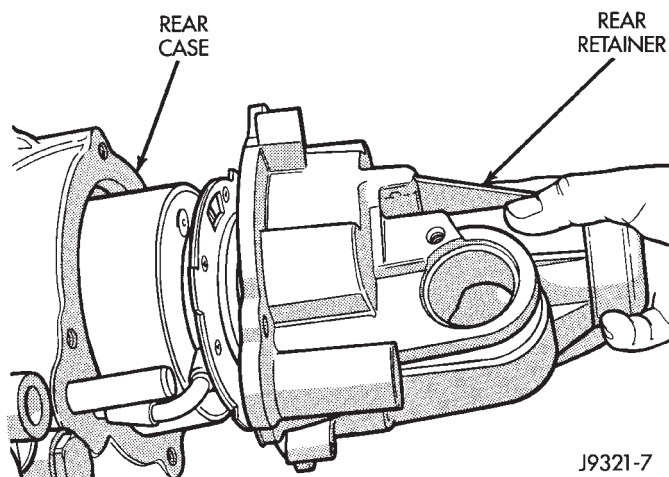

Fig. 29 Rear Retainer Removal
- Then slide retainer off mainshaft and rear bearing (Fig. 29).